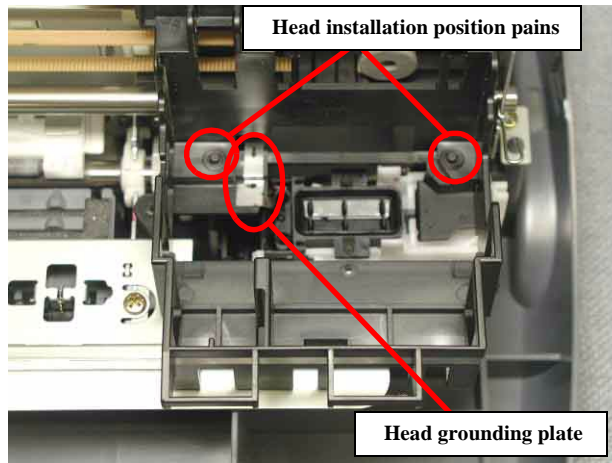

Figure 4-7. Printhead installation position (pin & the grounding plate)
- Make sure to fit two holes of the Printhead to the installation position pins correctly. (Refer to Figure 4-7)
- ❑ If you remove the Printhead from the CR unit, make sure that the Head grounding plate is set in the CR unit. (Refer to Figure 4-7)